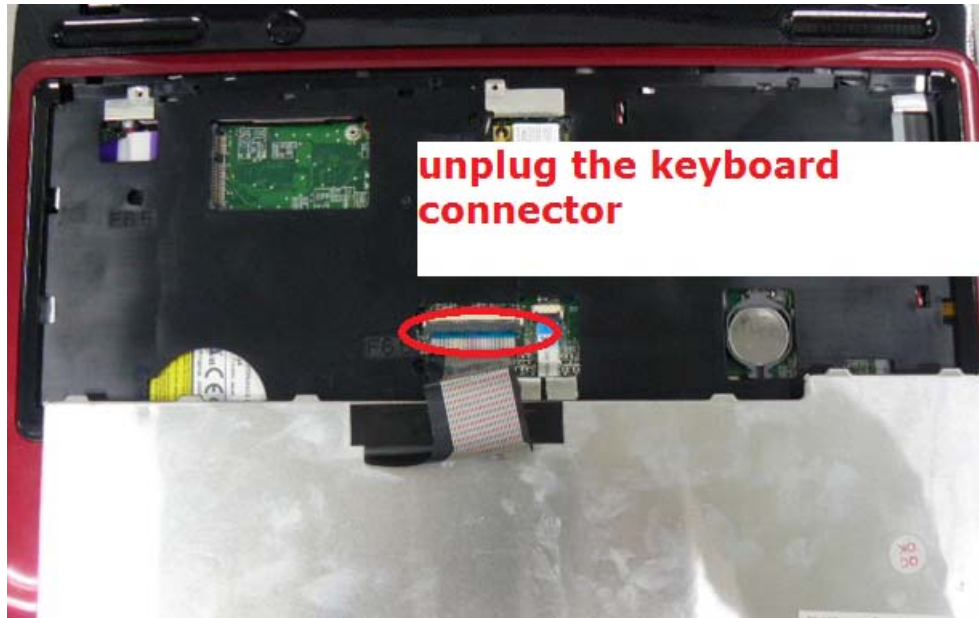

Figure 4-3-5 Unplug keyboard connector
7. Unplug the keyboard connector.(Figure 4-3-5)